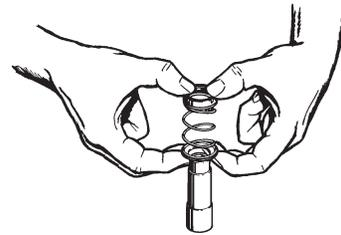

Figure 4-3
8. Remove the rotating element from the sleeve. Refer to Figure 4-3. The element normally adheres tightly to the sleeve and some force may be necessary to remove it. This is common and if care is taken, the element can be reassembled and reused. **It is recommended that a new rotating element be used for reassembly.** DO NOT attempt to remove the seal using a screwdriver or other sharp object. Extensive damage to the shaft, sleeve, or element could occur.